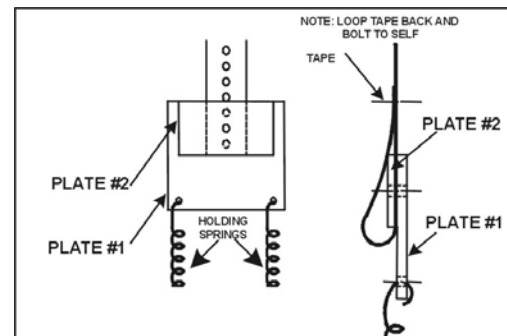

Figure 1-11
- Double over a short portion of the end of the tape and secure the bottom portion of the tape between plate #1 and plate #2. Cut off and discard remaining tape. [See Figure 1-11.]